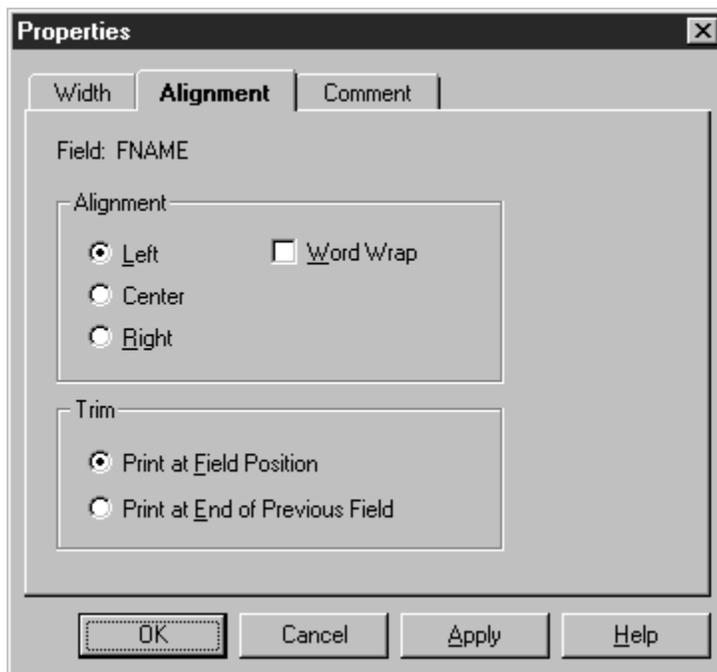

Figure 4.8 Alignment Tab
3. Select the Alignment tab (see Figure 4.8). In the Alignment box, select one of the option buttons: